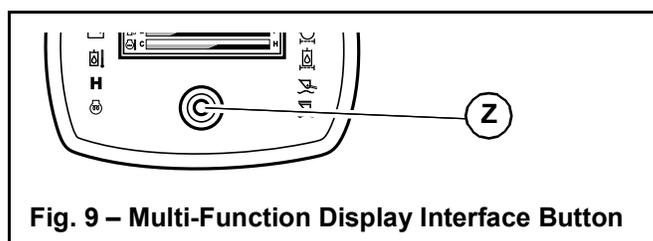

Fig. 9 – Multi-Function Display Interface Button
1. Hold down the interface button (Z, Fig. 9) on the multi-function display until the configuration selection screen (Fig. 10) displays.